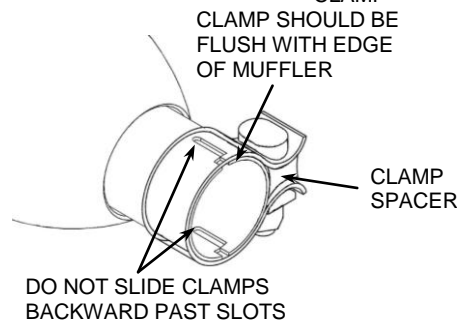

FIGURE 3
10. Once everything is aligned properly tighten the muffler clamp. (NOTE: The muffler clamp should be flush with the end of the muffler when tightened. See **Figure 3**. If the muffler clamp is slid backward past the slots on the muffler slip the clamp will not tighten the muffler properly which may cause an air leak and possible discoloring of the muffler body).